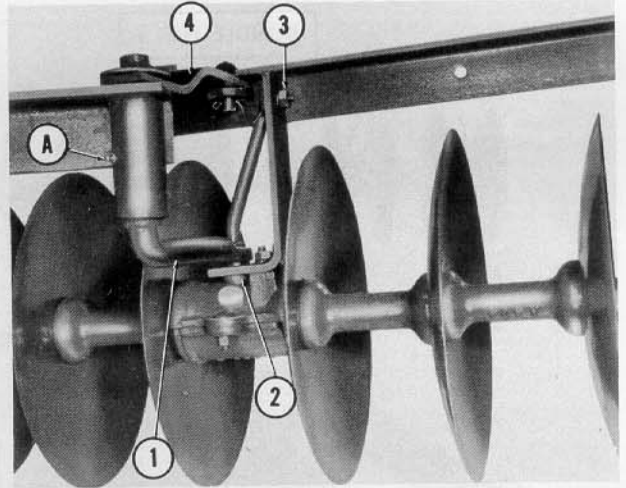
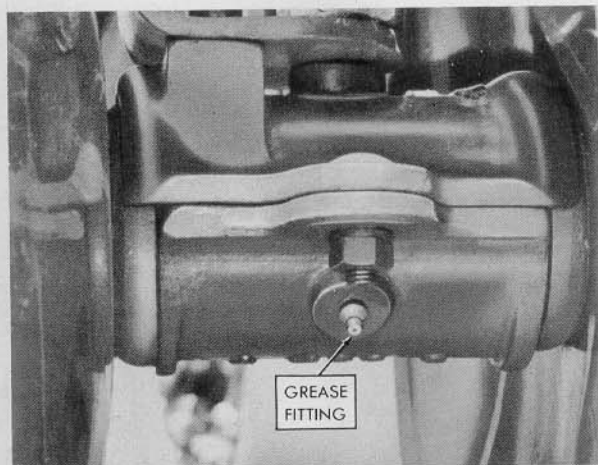

Figure 4
Figure 9
- a. Place forged end draw bar (1), Figure 4, on left end of lift frame, in position so hole in end of draw bar aligns with leg brace hole in outer bearing assembly (2). Insert leg brace and secure upper end with bolt, lock washer, and nut (3), Figure 4.
- b. Swing connecting brace (4) into posi-
Before this implement is taken into the field, it should be thoroughly lubricated. There are grease gun fittings (one on each of the bearing boxes, see Figure 9, and one on each forged end drawbar bearing sleeve, see "A", Figure 4). Wipe the fittings clean before lubricating to give a good grease gun fit and to prevent outside dirt from being forced into the bearing. Lubricate all fittings with a good grade of gun grease. Force enough grease into each bearing to carry out grit, dirt, some of the old grease, and to seal the bearings from outside dirt and dust. Grease the bearings frequently enough to keep them well lubricated.